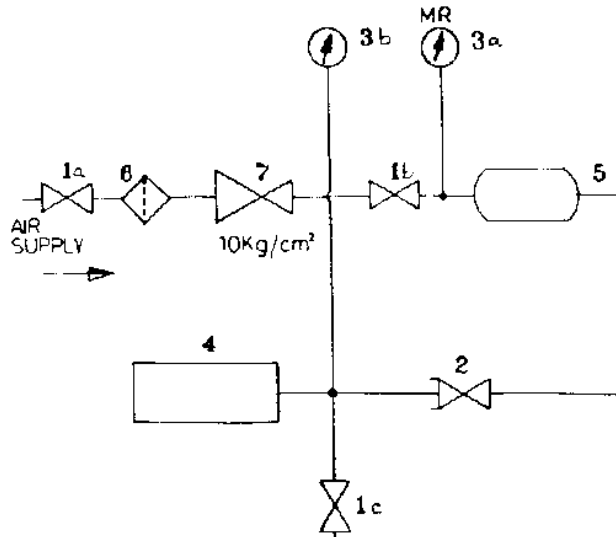

Fig. 7.9 TEST BENCH FOR BRAKE CYLINDER
B. TESTING OF BRAKE CYLINDER**a) BRAKE CYLINDER TEST BENCH (Fig. 7.9)**
Arrangement as shown in Fig. 7.9 is used for testing.